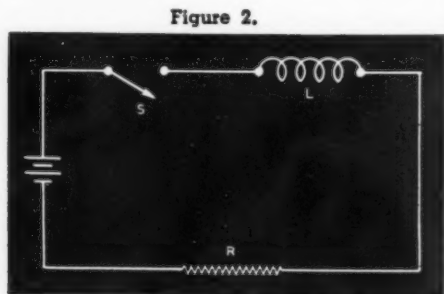

Figure 2.
(2) In a simple resistance-inductance circuit (see Figure 2), the reactance of the coil retards the building up of current in the circuit. Thus, when switch S is closed, the battery forces a current through coil L, this